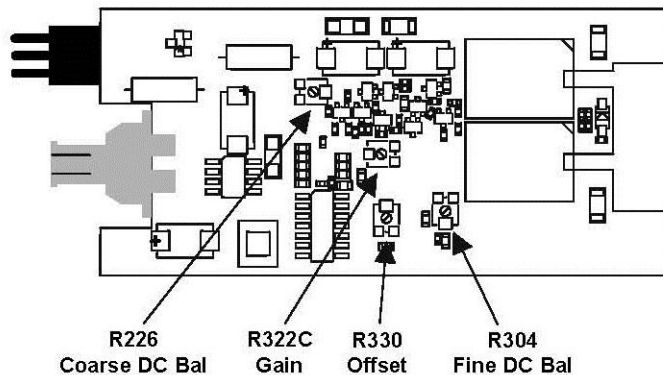

Figure 9, Amplifier Board Adjustment Locations
5. Adjust Coarse DC Bal (R226) on the amplifier board for an output voltage of $0\text{ mV} \pm 10\text{ mV}$. (See Figure 9 for location.)